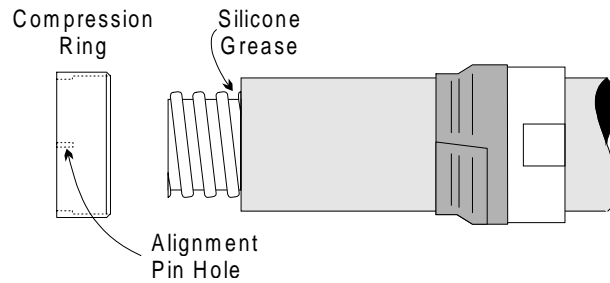

**Figure 2.19** - Cut Jacket
(Figures 2.19 to 2.26 are reproduced by permission of Andrew Antennas).
- 8.1 Ensure that the end of the waveguide is straight for at least 250mm (10in.). The ends of the EW85 must be cut squarely. Wrap a straight edged piece paper around the wave guide to ensure squareness, tilt waveguide downwards to prevent copper swarf entering, then remove a 24mm (15/16in.) Length of the polyethylene jacket. Clean external copper with Comothene (or Ultraclean) solvent and the interior with a bottle brush, see Figure 2.19.
- 8.2 Apply a thin film of silicone grease (MS4 or similar) to the large 'O' ring and insert in the internal groove of clamping nut; apply a thin film of grease to smooth internal surface of clamping nut and slip the nut over end of waveguide as shown in Figure 2.19. Wrap several turns of tape around clamping nut and jacket to prevent foreign matter from entering.